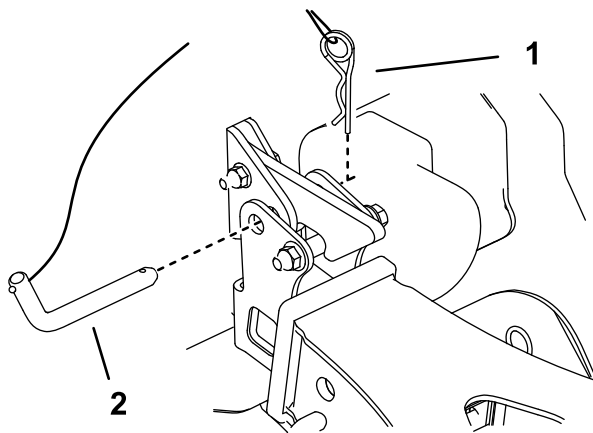

Figure 22
5. Remove the hitch pin and hairpin cotter securing the blower assembly to the hitch receiver (Figure 22).